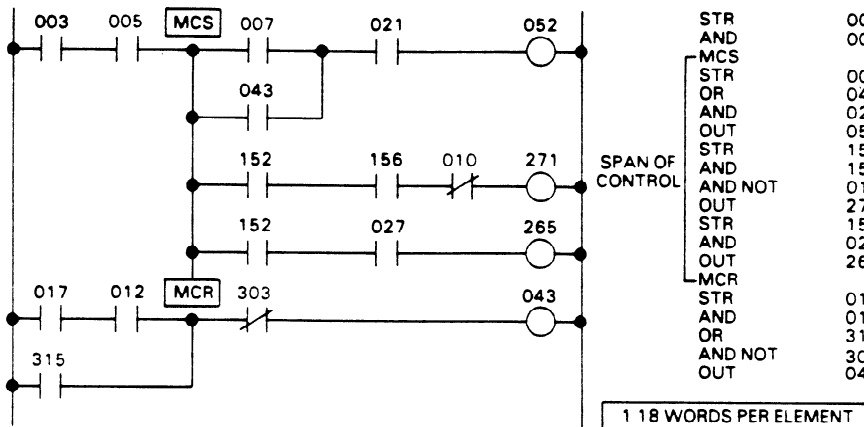

Figure 5-13. Example of Master Control Relay Logic
Figure 5.13 illustrates the use of one pair of MCS/MCR functions. In many cases it is convenient to view the MCS function as defining a sub-left power rail whose connection to the main power rail is dependent upon some relay logic. The conditional logic (I003 - I125 in this example) is built first using the normal relay logic. The MCS function is entered without any reference to create the beginning point of the control. Logic is built using normal functions within the control area. Note the duplication of contact 152, which cost only one memory word, there is no need to count or limit the quantity of relay contacts used in PCs. To end the master control, the MCR function is entered returning control to the next power rail to the left and conventional logic can now be built. Unless both references 003 !and^ 005 are energized (ON) in this example, coils 052, 271, and 265 will be OFF. When these contacts are passing power, coils 052, 271, and 265 will respond to their normal logic.